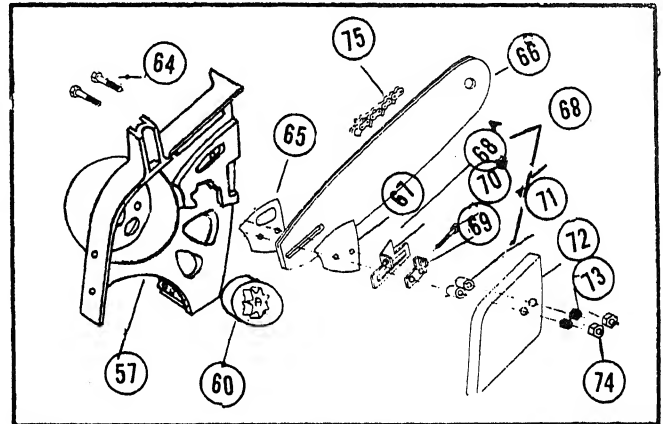

FIGURE 2 - ASSEMBLING CHAIN AND BAR.
- 1) Loosen nuts (Ref. 74, Fig. 2, Page 3) holding chain tightener.
- 2) Adjust tension on chain by turning adjusting screw (Ref. No. 70, Figure 2, Page 3) on chain tightener (Ref. No. 68, Figure 2, Page 3).
- 4) Tighten nuts (Ref. No. 74, Figure 2, Page 3) securely, holding chain tightener.